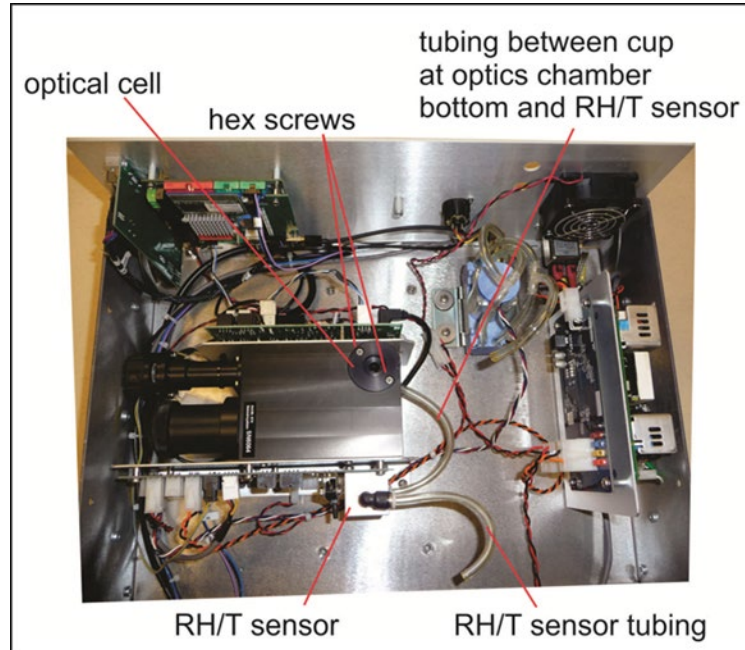

Figure 6. Maintenance: Location of Optics Chamber and RH/T Sensor.
13. Locate the optical cell, the cup at the bottom of optics chamber and its tubing, and the Relative Humidity and Temperature (RH/T) sensor (Figure 6).